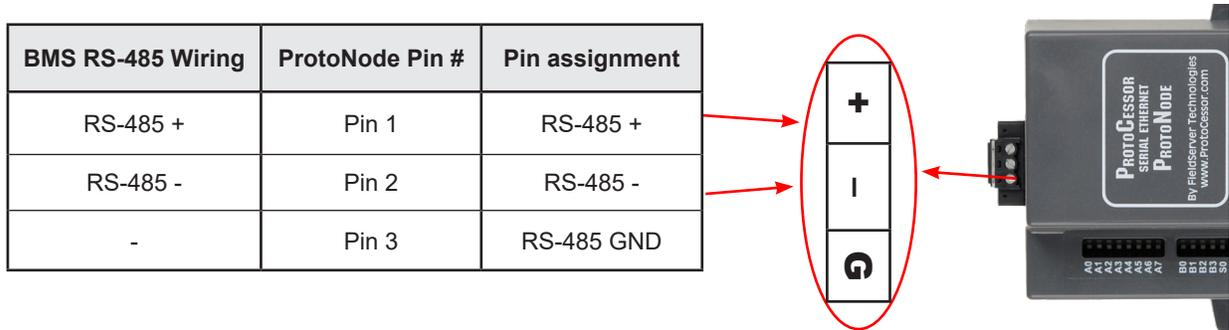

Figure 8. Connection from ProtoNode to RS-485 Field Protocol –BACnet MS/TP
7. Connect the ProtoNode's 3 pin RS-485 port to the Field Protocol cabling. (See **Figure 8**)